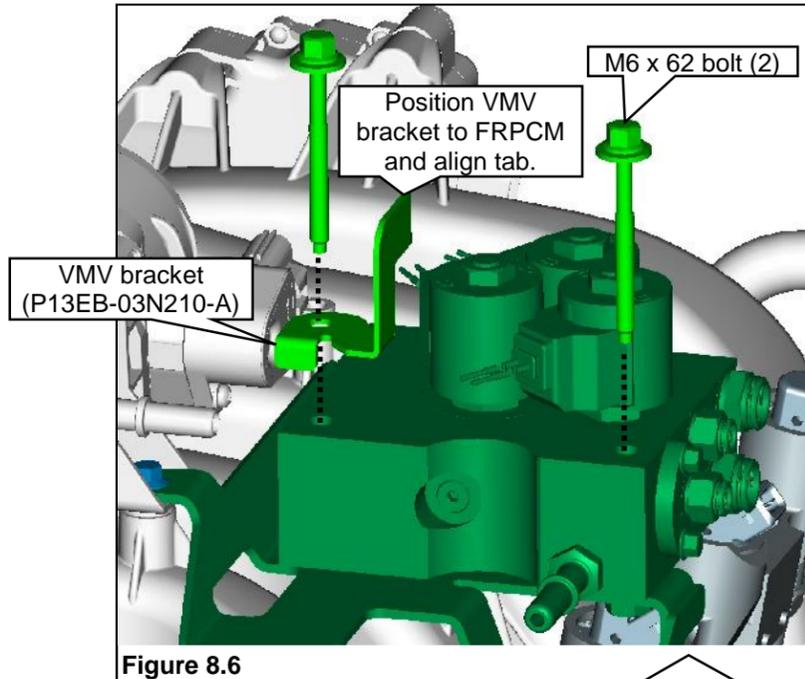

Figure 8.6
5. Position the VMV bracket to the FRPCM inner rear hole with the tab of the bracket rearward. Loosely install two M6 x 62 bolts through the FRPCM into the FRPCM bracket. **Figure 8.6.** Tighten all four bracket bolts to 8–12 Nm.